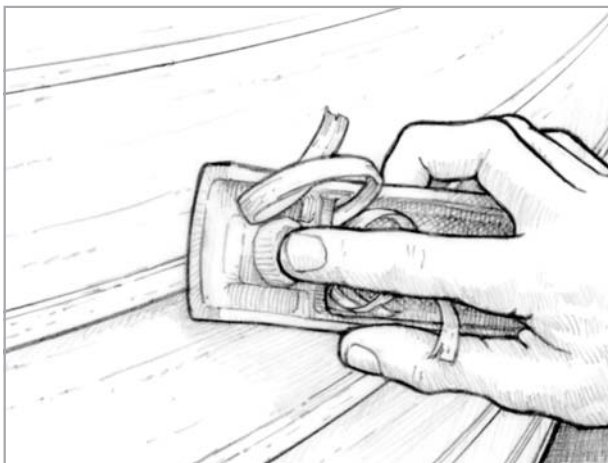

Figure 5-4 Use a plane to remove the excess spline and a sander to fair the surface after the epoxy has cured.
4. Push the wet-out spline into the seam (*Figure 5-4*). The taper on the spline should force epoxy to the sides, making good contact with the spline and edges of the planks. The spline should fit snugly in the seam with hand pressure after a small amount of epoxy squeezes out of the joint. Staple the spline if necessary to hold it in position.